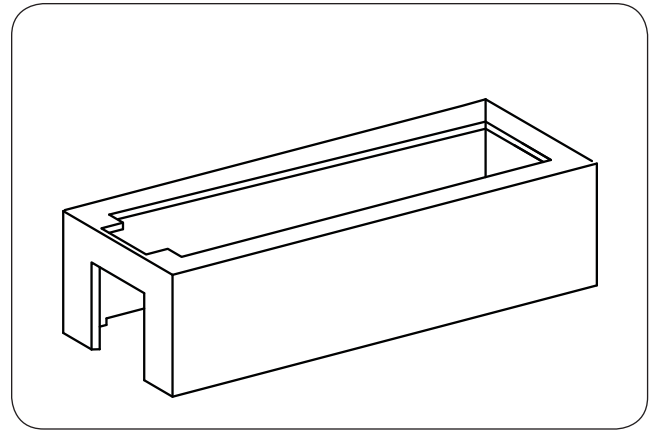

Fig. 15-1 Locate hearth
1. Locate the hearth piece in an appropriate location (refer back to the LOCATION section if needed). See Fig. 15-1.